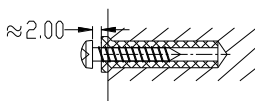

Figure 7
4. Insert two screws into the wall anchors with 2mm length left remaining (see Figure 7).